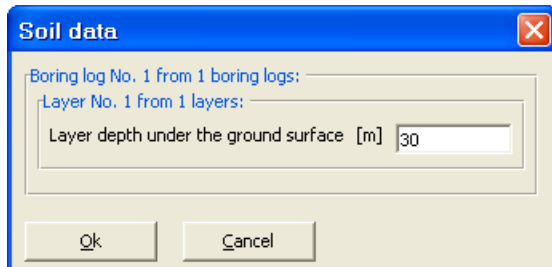

Figure 11-25 "Layer depth under the ground surface" edit box
- Double-click on the layer depth. The corresponding edit box appears allowing you to modify the layer depth under the ground surface, Figure 11-25